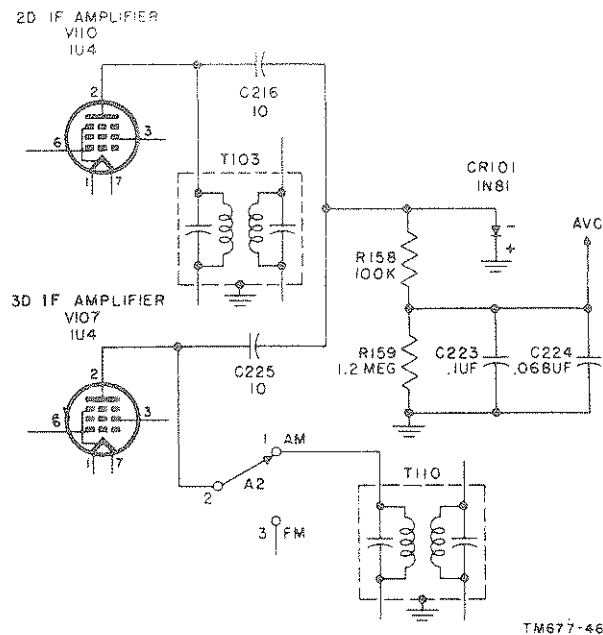

Figure 46. Radio Receiver R-395/PRD-1, functional diagram of automatic volume control.
83. Automatic Volume Control (fig. 46)